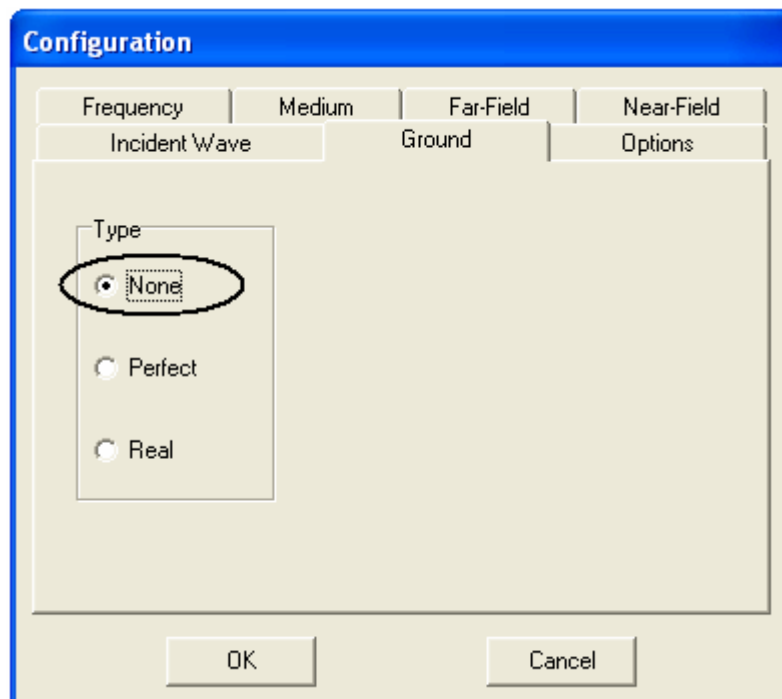

Fig. 10.4: None option in the Ground page of the Configuration dialog box.
3. Choose the **None** option, Fig. 10.4.